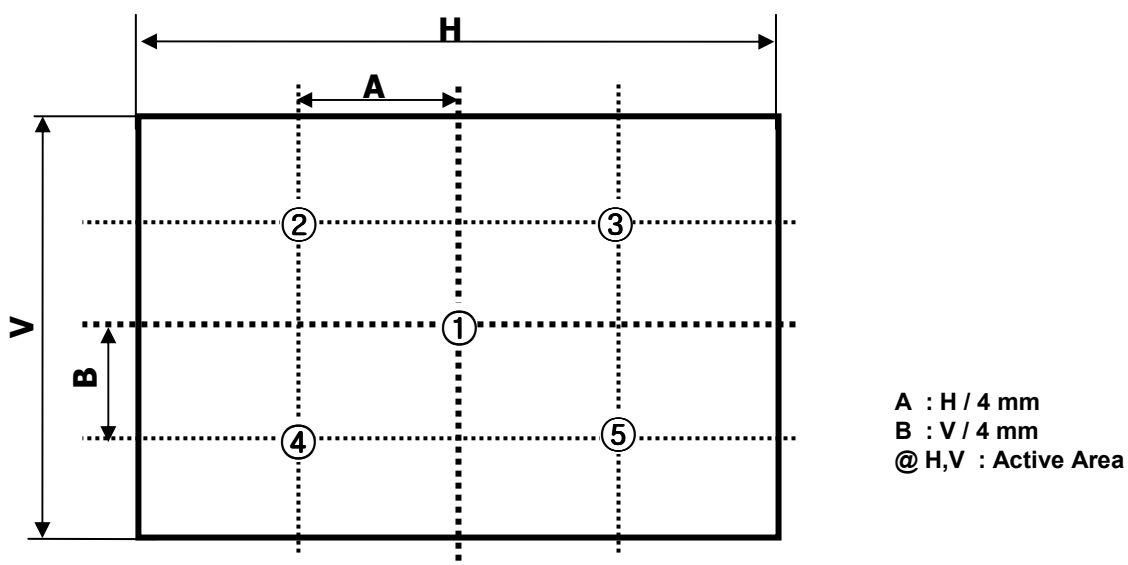

FIG. 2 5 Points for Luminance Measure
n = the Position number(1, 2, 3, 4, 5). For more information, see FIG. 2.
2. Surface luminance are determined after the unit has been 'ON' and 1hour after lighting the backlight in a dark environment at $25 \pm 2^\circ\text{C}$. Surface luminance is the luminance value at center 1-point across the LCD surface 50cm from the surface with all pixels displaying white. For more information see the FIG. 2.
For more information, see the FIG. 2.